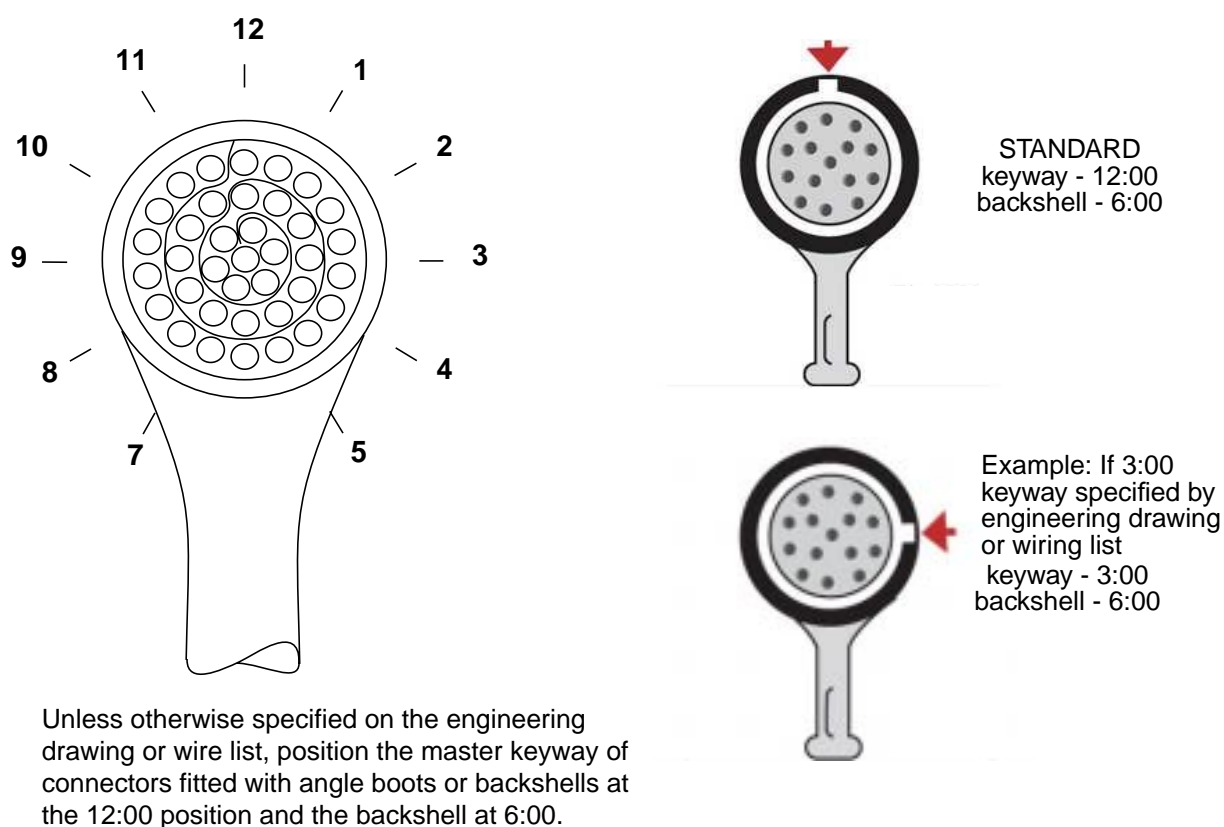

Figure 19 - Master Keyway Positioning
- 5.13.5 Unless otherwise specified on the engineering drawing or wire list, position the master keyway of connectors fitted with angle boots or backshells at the 12:00 position and the backshell at 6:00 (see Figure 19). Determine the clocking position by using the mating face of the connector as a reference.